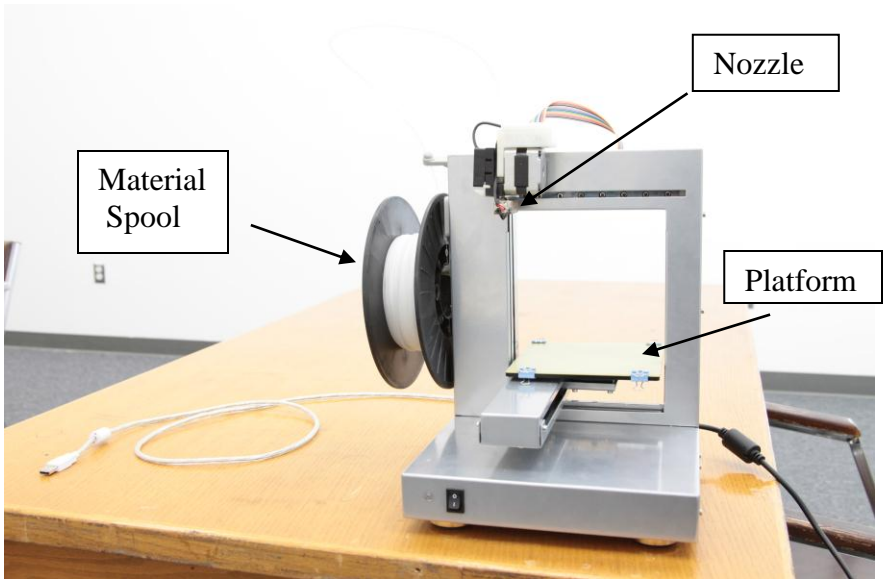
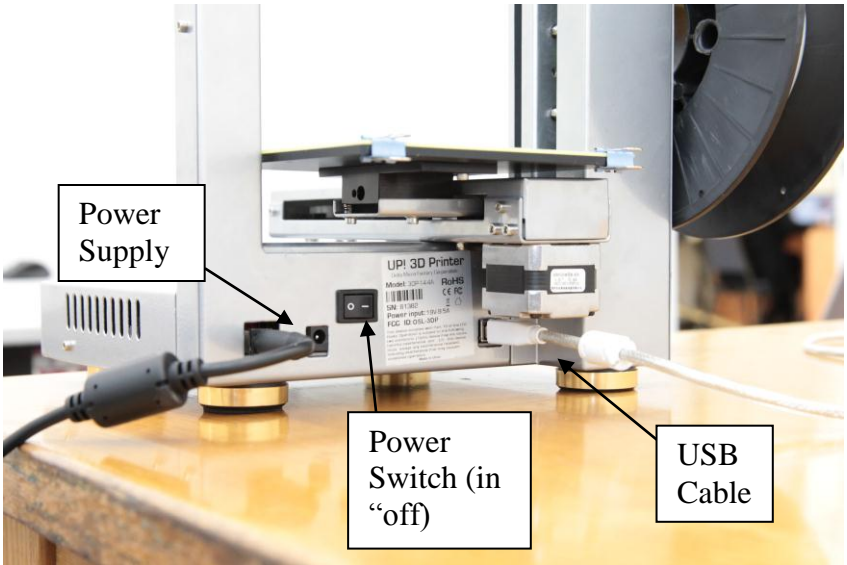

Figure 1: UP! Desktop 3D Printer
Figure 2: Back of UP! 3D Printer
The UP! Desktop 3D Printer is a machine that allows users to print custom-designed models using plastic (ABS or PLA). A spool of plastic, as shown in Figure 1, is attached to the side of the machine and is connected to the printer head using a tube sleeve. The printer head and nozzle then extrudes the plastic at a high temperature such that it adheres to the custom design of the model, as shown in Figure 2.
1. The power cord should be securely **PLUGGED** into the wall and to the back of the machine, and the USB cable should be plugged into a computer, as shown in Figure 2.